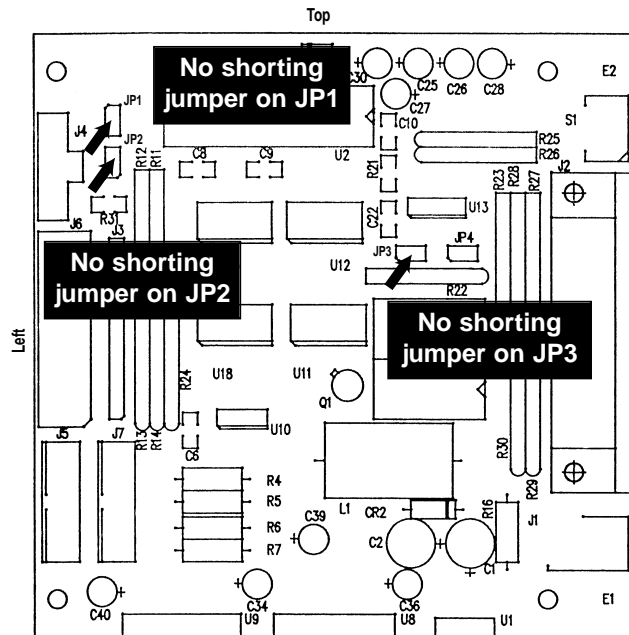

Fig. 3. -01 configuration (level logic and RS-232). No shorting jumper is needed for level logic or RS-232.
4. Use Table 1 to determine the placement or removal of a shorting jumper on header locations for the desired type of control. See Figures 3, 4, and 5 for location illustrations.